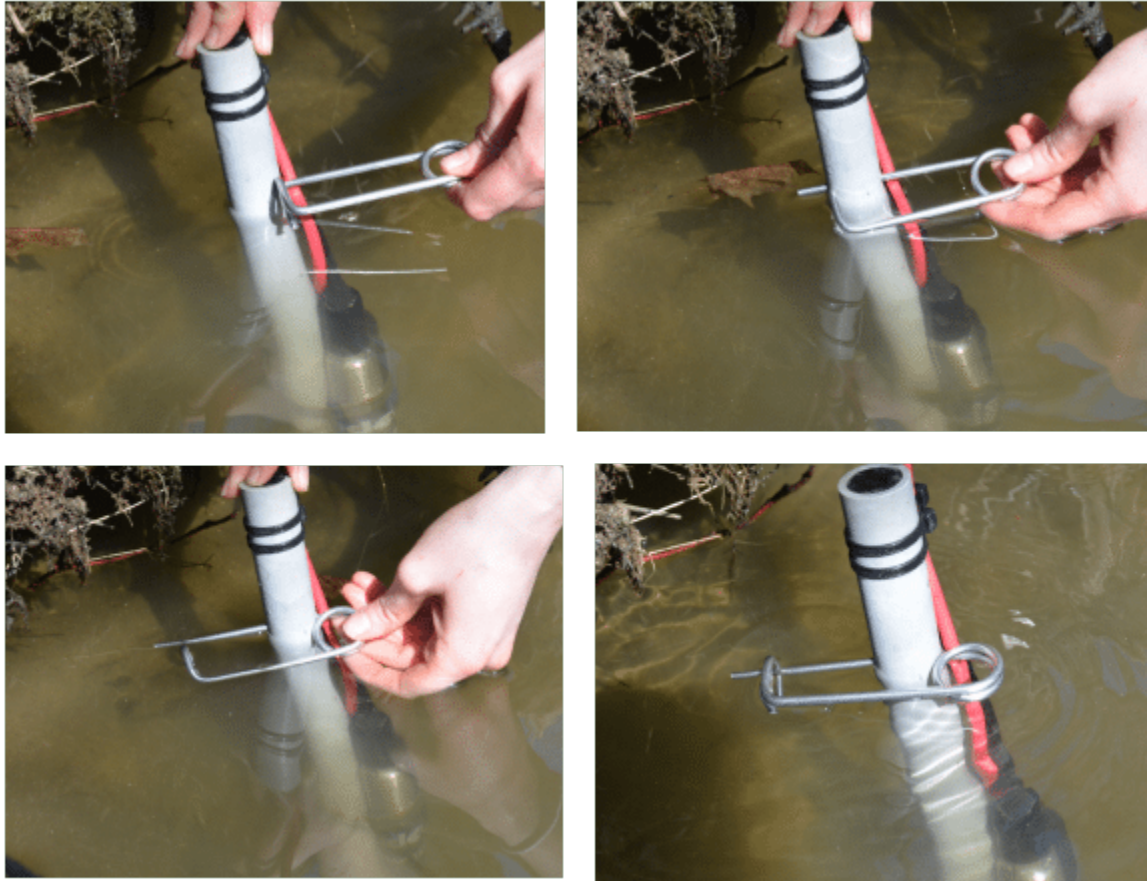

Figure 13: Attaching PVC to steel rebar pin with retaining pin.
18. Secure the sensor bundle using the metal retaining pin (Figure 13).